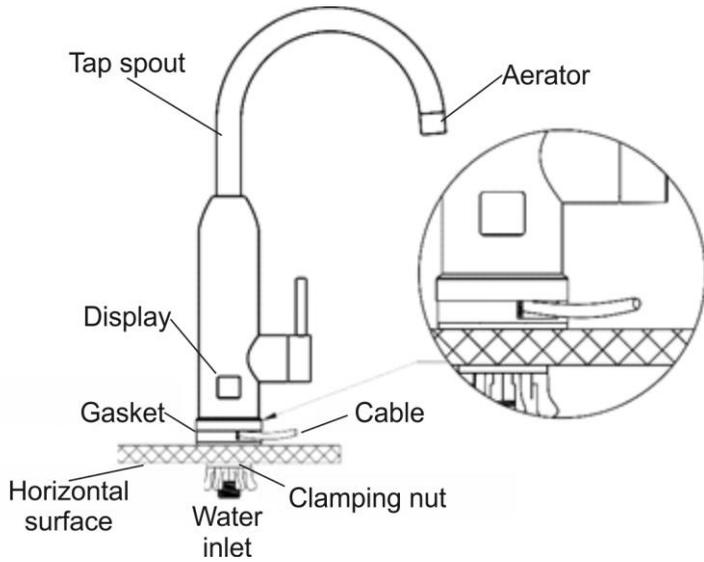
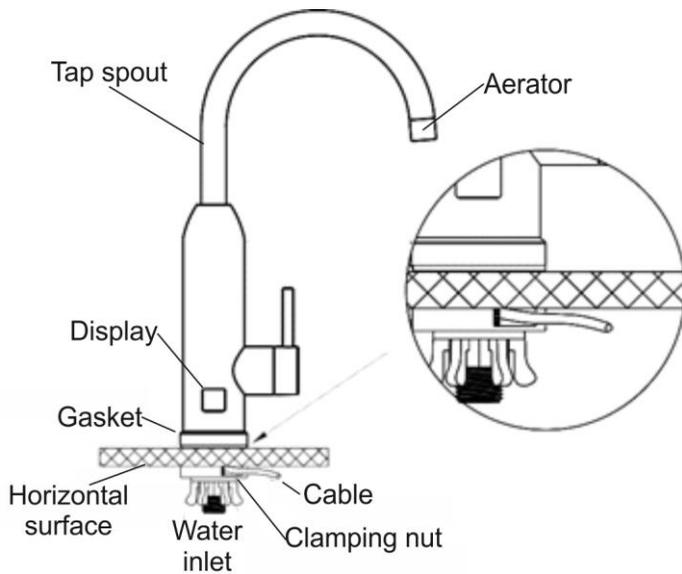

Fig. 1. Installation with the output of the power cable above the sink
Fig. 2. Installation with the output of the power cable under the sink
2. Install the IEWH on the sink in accordance with the selected installation option, following the scheme from Figure 1 or Figure 2.